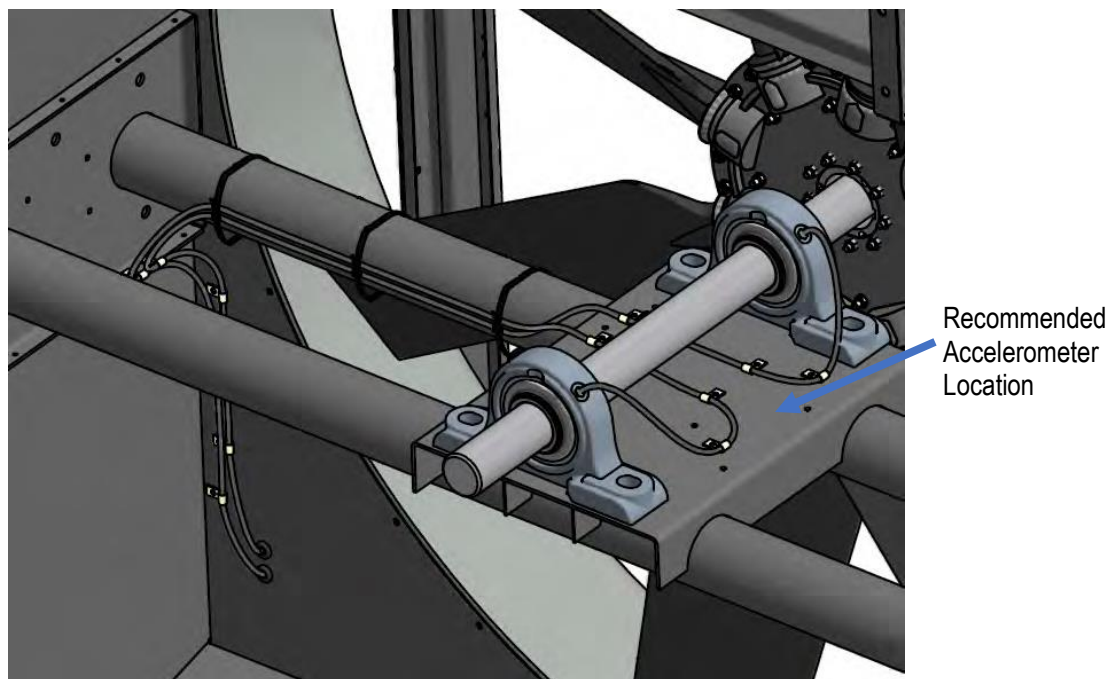

Figure 22. Accelerometer Location - Belt Drive
- Attach the accelerometer (provided by others) onto the box beam as shown in **Figure 22**. The accelerometer should be placed on the top of the bearing support channel, near the fan side bearing, as shown.